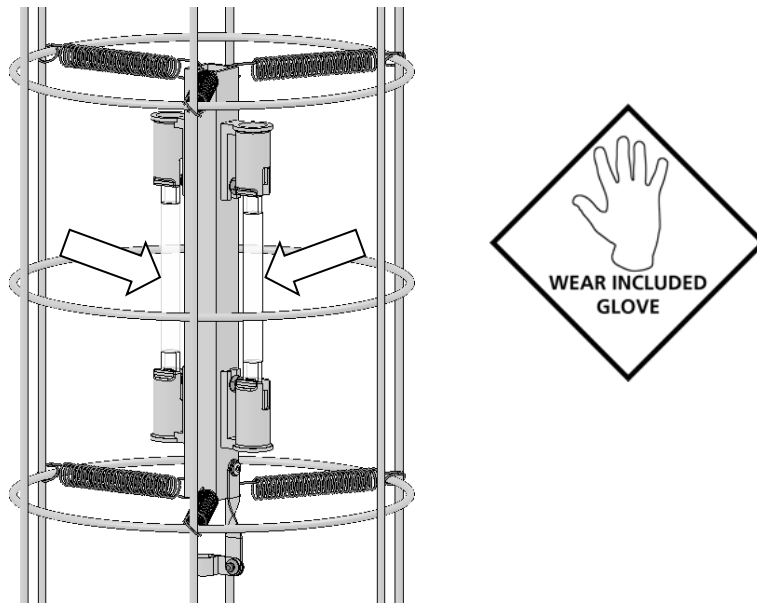

Fig. 1
- **DOOSAN** Balloon Light 2K (HA 2x1000W) – (Fig. 1)
⇒ Using the optional ST201(Fig. 1) stand.